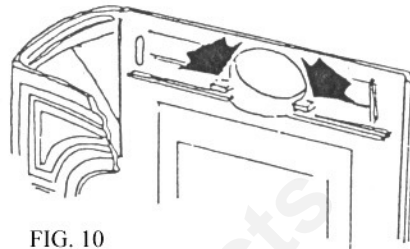

FIG. 10
NOTE: The Defiant I was originally designed with a removable smoke deflector plate (located immediately behind the side load door) to allow access to the baffle chamber for cleaning purposes. The design of the Defiant IAI wearplate system denies access through the smoke deflector area. Access with this system is gained through the flue collar after removing the smokesheff. The smokesheff, however, was originally designed to be locked in place by two tabs that extend from the back plate over its top surface (Fig. 10). If this has not been already accomplished, these tabs should be broken off before interior plate assembly to facilitate removal of the smokesheff with the stove fully assembled. The tabs can be easily broken off with a hammer and chisel, and any jagged edges cleaned with a disk grinder. In some cases, the smokesheff itself will need grinding along its longer edges to allow a fit loose enough for removal through the flue collar.
- Position the smokeshelf so that it rests on the ridges on the back plate and upper fireback with the cut-out corner located where the baffle meets the back plate. (Fig. 10).